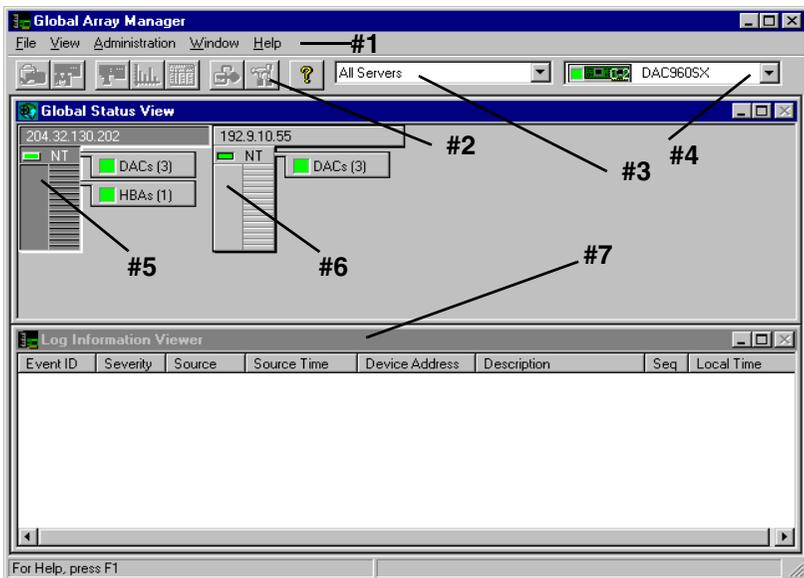

Figure 3-1. Opening GAM Screen
Upon startup (with defined servers), Global Array Manager Client displays the opening screen, consisting of the Global Array Manager window, the Global Status View window and the Log Information Viewer (Figure 3-1).
The major components of the Global Array Manager window (Figure 3-1) are described below:
The major components of the Global Status View window (Figure 3-1) are described below:
7. Item #7 in Figure 3-1 is the GAM Client *Log Information Viewer*. Each line in the Log Information Viewer identifies a single *event* (error, status, warning, etc.) which was noted during monitoring by a file server running GAM Server, and was transmitted by that server to this client workstation. Relevant details accompany the event: